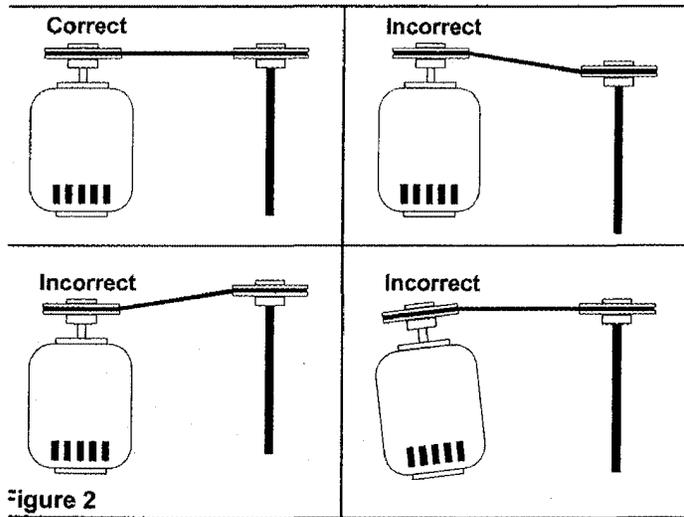

Figure 2
- Ensure pulleys are properly aligned. Refer to Figure 2.
Figure 2 illustrates correct and incorrect pulley alignment. The recommended method of inspecting the pulley alignment is shown in Figure 3. With the shorter leg of a carpenter's square or other straight edge lying along the case of the motor, adjust the position of the motor pulley (or the motor) until the longer leg of the square is parallel to the belt.